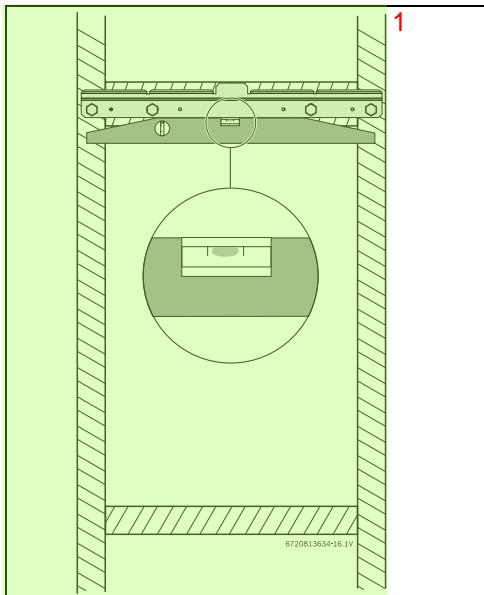

Fig. 8 Leveling wall mounting bracket 2
- Secure the wall mounting bracket provided with the heater to a wall surface. The heater must be kept level on the wall surface, see fig. 8, page 18.